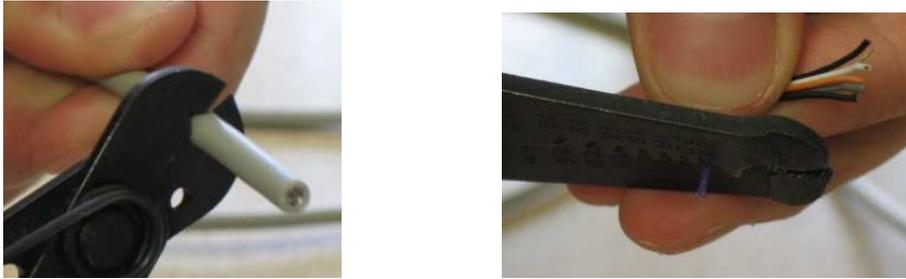

Figure 3: (Left) Strip the outer sheathe from the DB-9 cable. (Right) Now, strip the sheath from each of the inner wires.
5. Strip the outer sheathe. You can either use strippers with measurements or very simple strippers. Always start at a measurement you think will be too large and work your way to a smaller cut. See Figure 3.